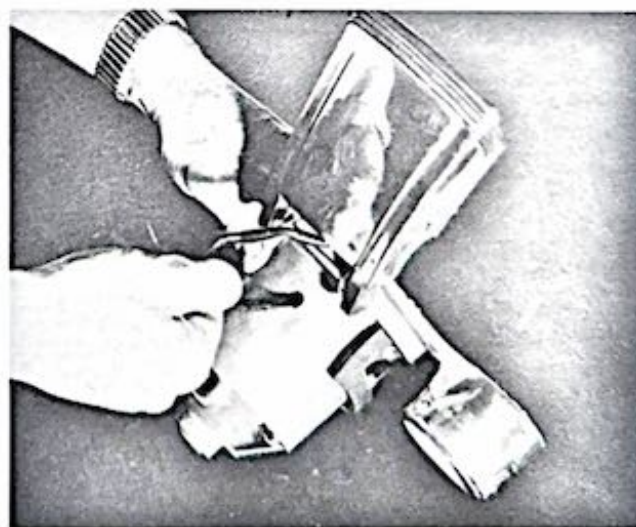

Figure 1-51. Removing headlight wires from motor housing.
(3) Pull the headlight wires and insulating tubing from the motor housing as shown in figure 1-51.